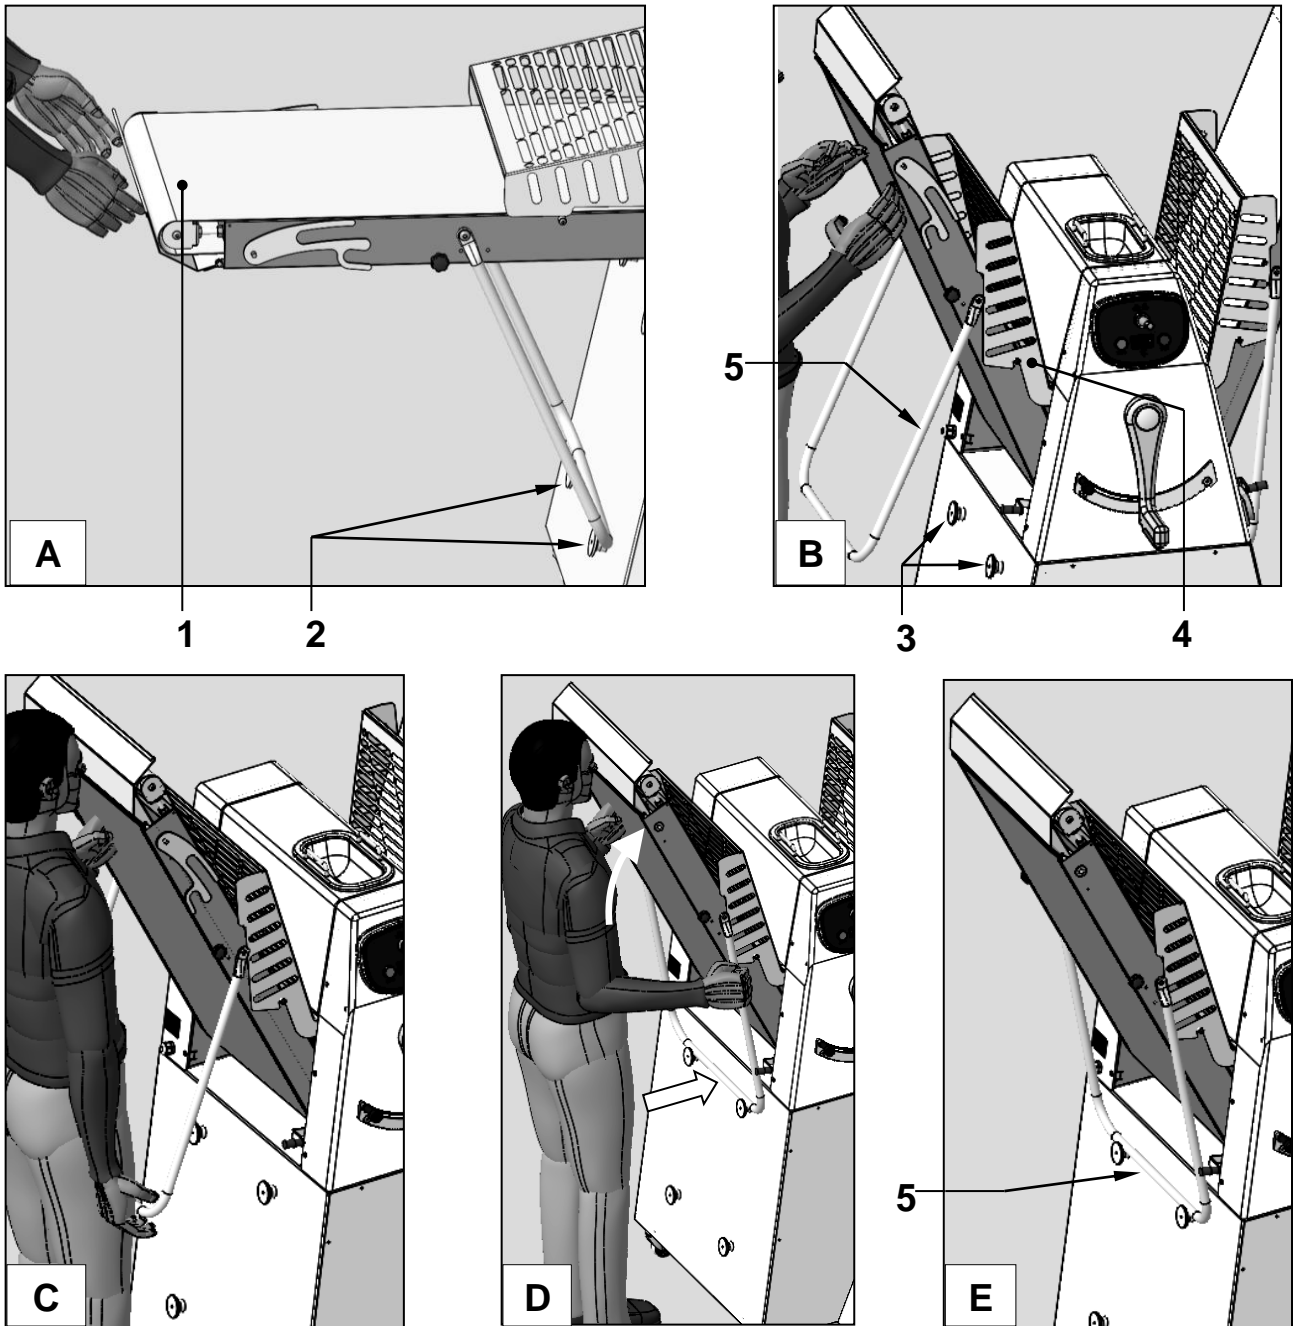

Fig. 4.6
To bring a bench ref. 1 (Fig. 4.6) from the position shown in photo A to the position shown in photo E:
- completely raise the guard ref. 4.
- lift the bench ref. 1 (photo B):
- for bench length  $\leq 850$  mm: while the operator holds the bench up with one hand, he should use the other hand to bring the crossbar of the support ref. 5 to rest on the blocks ref. 3 (photos C - D - E)
- for bench length  $> 850$  mm: while one operator holds the bench up with both hands, the second operator should bring the crossbar of the support ref. 5 to rest on the blocks ref. 3.